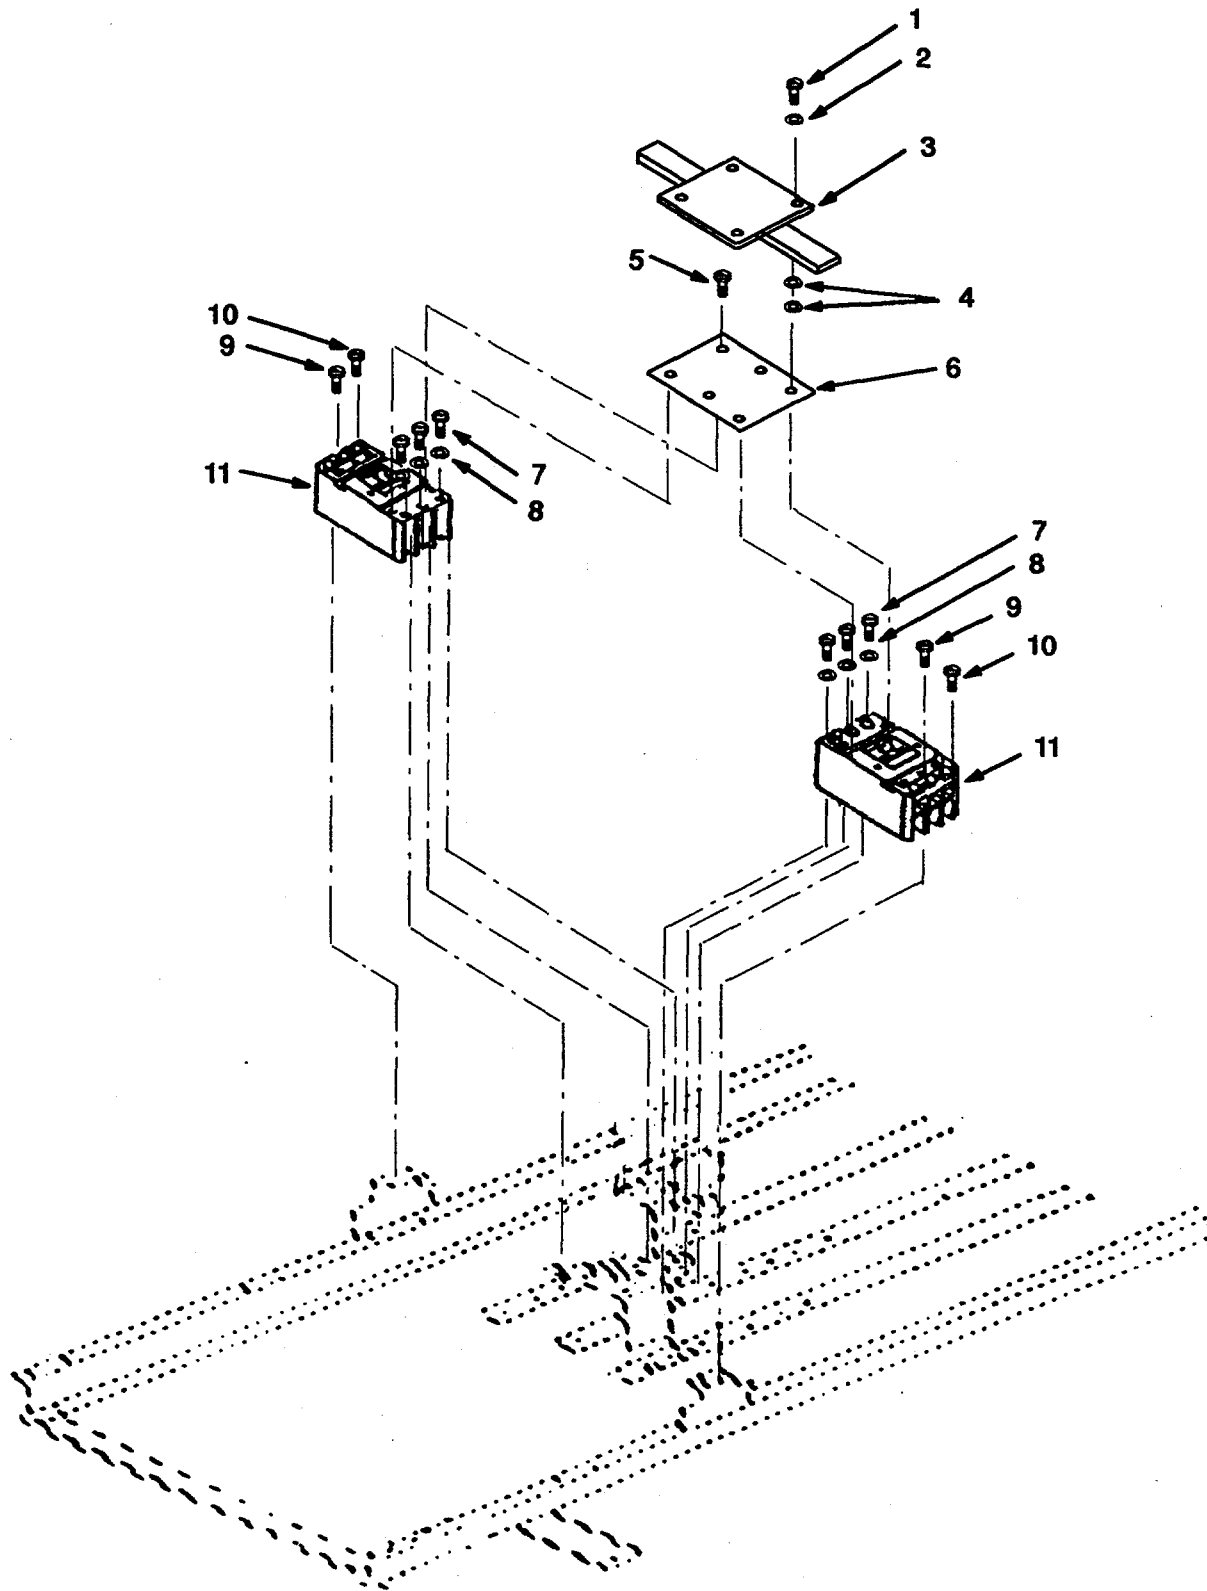

Figure 5-3. 400 Amp Circuit Breaker Assembly.
- a. Remove four screws (1, Figure 5-3), washers (2), and remove interlock (3), and eight washers (4).
- b. Remove four screws (5) and remove plate (6).
- d. Remove four screws (9).
- e. Remove six screws (7) and washers (8), and remove two 400-amp circuit breakers (11).
- a. Install two 400-amp circuit breakers (11), six washers (8), and screws (7).
- b. Install four screws (9) and tighten.
- c. Install six electrical leads and remove tags. Tighten six screws (1 0). Torque screws (7) and (1 0) to 275 in. lb (31.4 Nm).
- d. Install plate (6) and secure with four screws (5). Tighten screws.
- e. install eight washers (4) and interlock (3). Secure with four washers (2) and screws (1 ) Tighten screws.